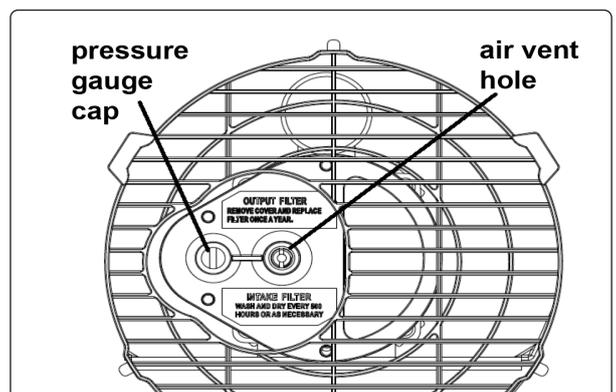

fig.4
- 7.2.1. At low temperature keep the air vent hole fig.4 closed by a finger during ignition to make start-up easier.
8.6.4. **Compressor Pressure Adjustment fig.4**